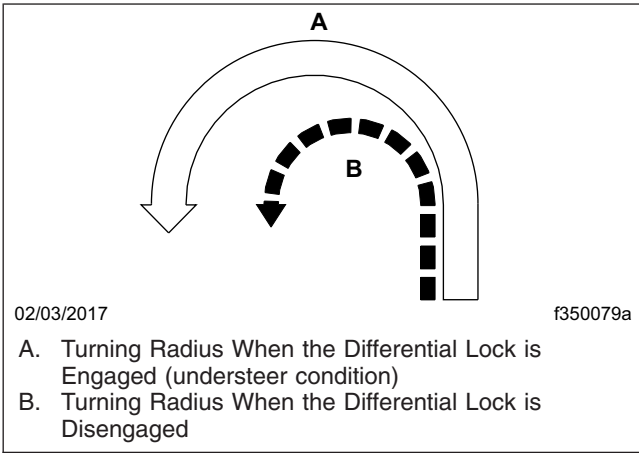

Fig. 17.2, Turning Radii
3. Drive cautiously and do not exceed 25 mph (40 km/h). When the differential is fully locked, the turning radius will increase because the vehicle understeers. See Fig. 17.2.